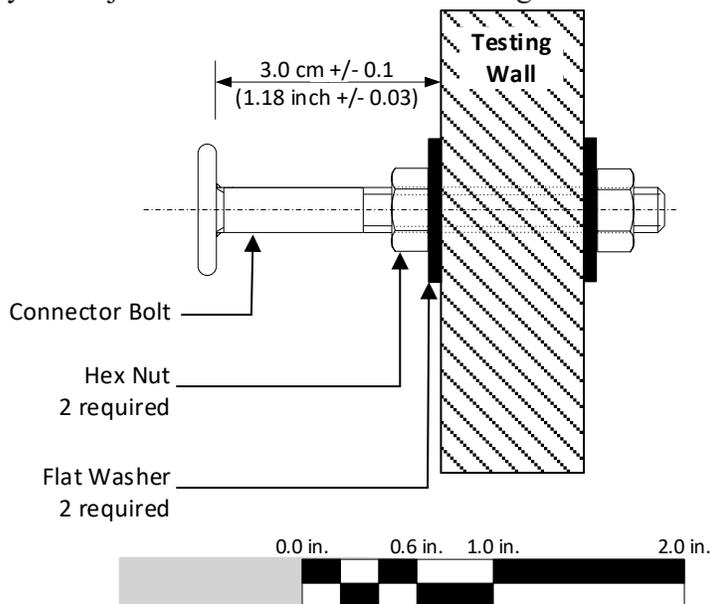

Figure 4 – Mounting Bolt Assembly in Testing Wall
- (2) The Mounting Bolt Assembly will be secured in place on the Testing Wall by the Event Supervisor as follows:
- (b) Connector Bolt is installed to allow 3.0 cm +/- 0.1 cm (1.18 inch +/- 0.03 inch) clearance between the closest face of the Connector Bolt to the Testing Wall and the Testing Wall face (Figure 4).